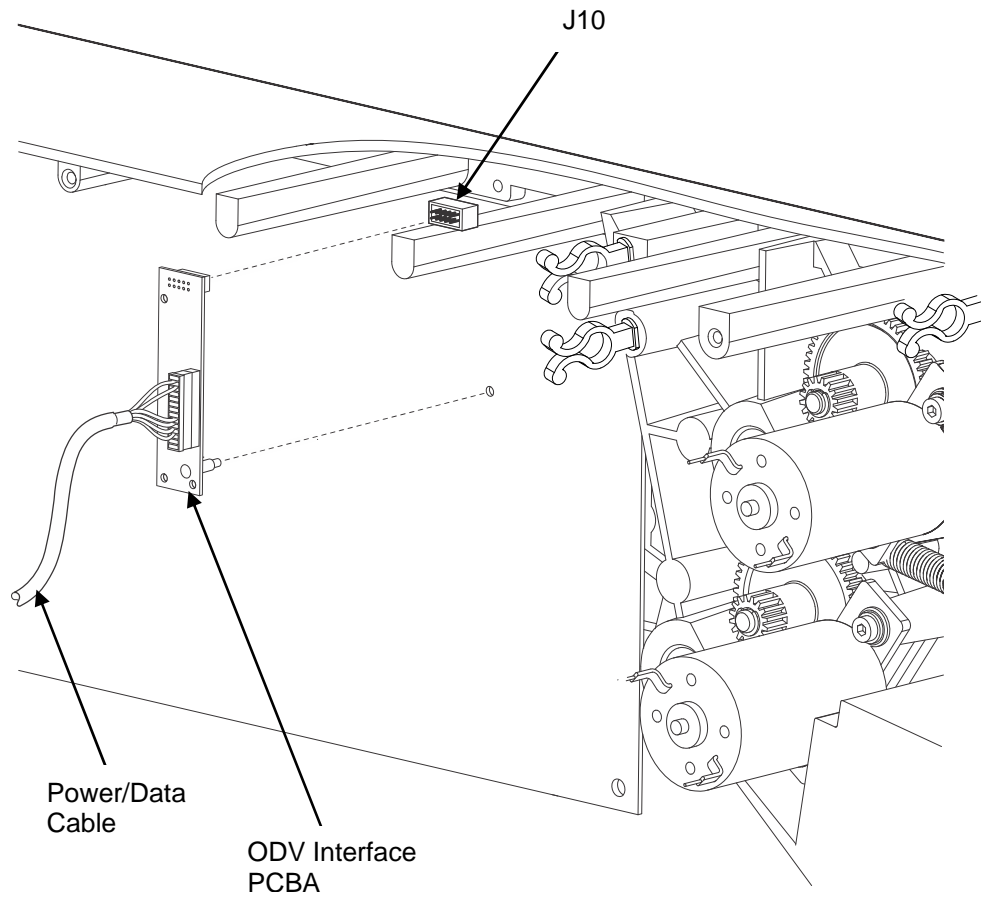

Figure 10
17. Plug the P10 connector end of the power/data cable into the J10 receptacle on the ODV Interface board. See Figure 10 on page 22.